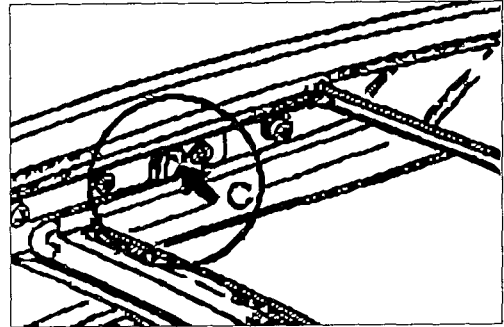

Figure 8
- Open the glass roof completely and check if the rubber stop, part number 993 562 810 00 for the guide pin of the glass roof is installed (arrow, Figure 8). The rubber stop is approximately 50 mm in front of the rear window on the guide tracks and is only accessible when the roof is fully open.